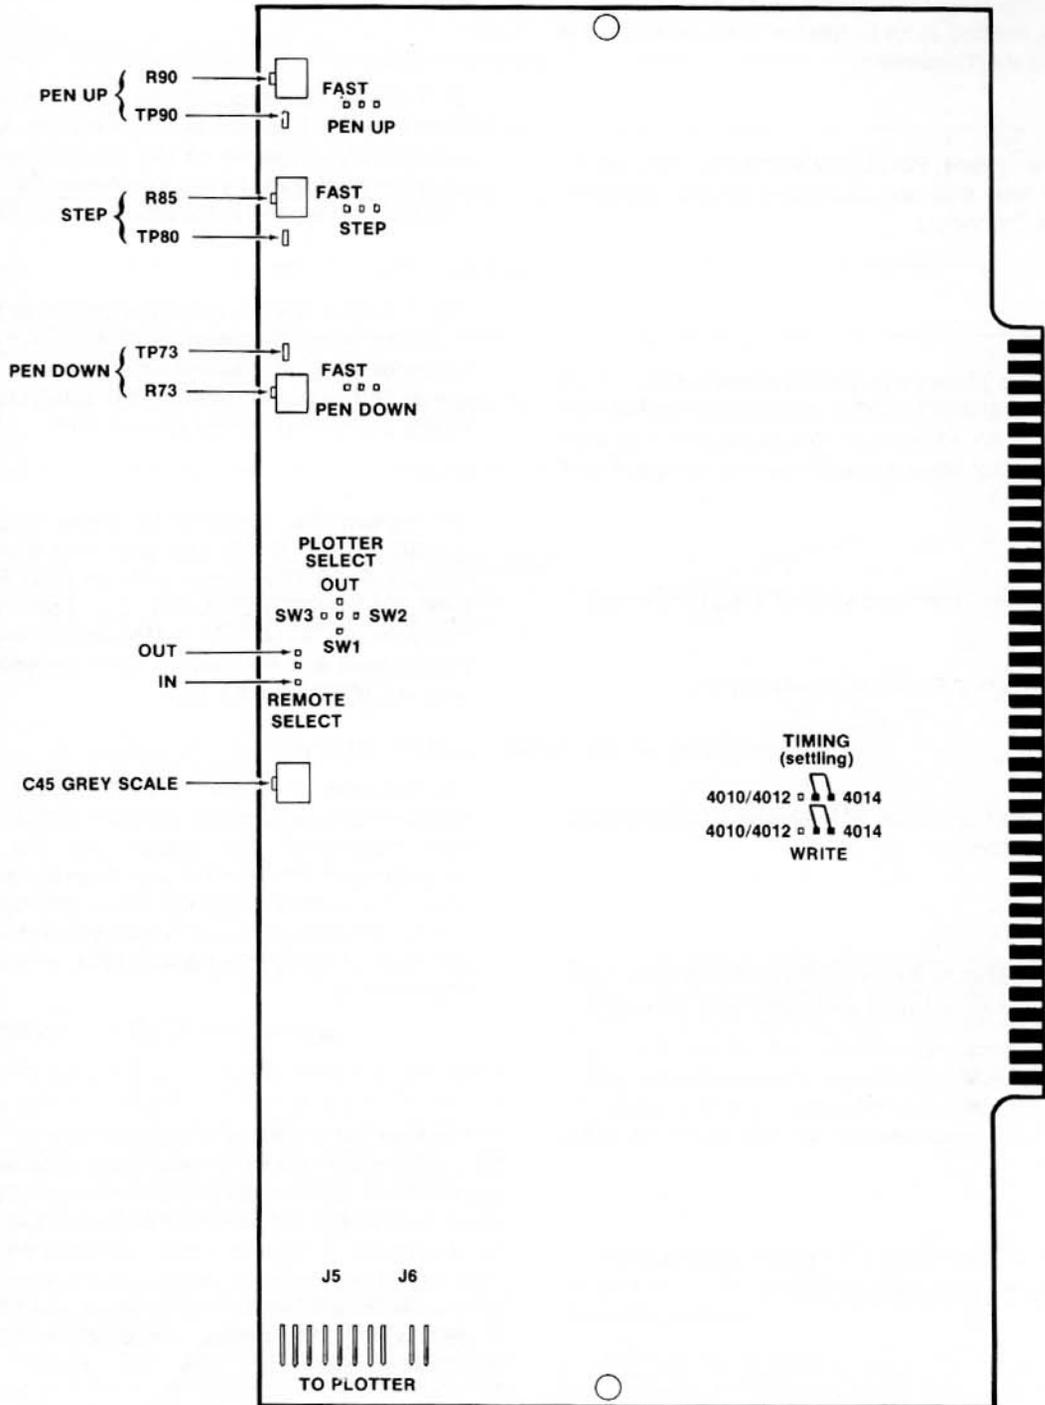

Fig. 1-14. Discrete Plot Card strap options and adjustment locations.
Two strap options on the Discrete Plot Card should be checked to ensure they are in the 4014 position. These are the WRITE and TIMING (settling) straps. Fig. 1-14 shows strap locations. The GREY SCALE adjustment is used to adjust the intensity of the plotted point when operating in Special Point Plot mode. Fig. 1-14 also shows the location of this adjustment.
Fig. 1-14 for location of straps. In addition to the WRITE and TIMING straps previously mentioned, other straps are pertinent for operation with a plotter. These are:
- 3) Locate the Discrete Plot card in the minibus. Refer to Fig. 1-14 for adjustment and test point locations.